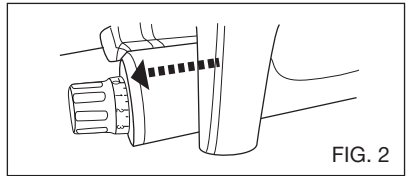

FIG. 2
- Check that the movable bulkhead (2) is closed (thickness control knob (6) in position “0”). See Fig. 2.
- Raise the sharpener group (10), turning it by 180° so that both wheels are in working position. See Fig. 2.
- Lower the sharpener group (10) until it locks. See Fig. 2.
- Switch on (5). See Fig. 2.
- Press button (26) and let the blade turn for about 1 minute. Turn slicer off (5). When the blade is still, check to see if any burrs have formed on the edge. See Fig. 2.
- After having verified the presence of burr, switch on and gently press button (27) for about 3 seconds to remove the burr produced during sharpening. See Fig. 2.
- After sharpening, move the sharpener group (10) back to its original position and clean the edge of the blade and the wheels.
2. Pull the carriage toward the thickness control knob and tilt the carriage outward – Fig. 2/3.